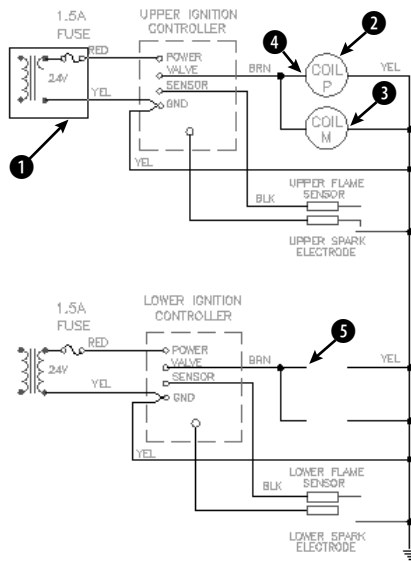

**Figure 9-5:** The electrical schematic.
3. Use ZOOM Window to zoom into the area of the drawing marked ❶ in Figure 9-5. This shows a 24-volt transformer.
6. Pick the circle at ② in Figure 9-5 (which shows the entire schematic section). Note the grips. You also want to select the text inside the circles, but it's hard to see because of the grips. Press Esc to remove the grips.
7. Choose Copy from the Modify toolbar. Now select the circle at ② in Figure 9-5 again. This time no grips obscure the text. Separately pick both lines of text inside the circle.
8. Continuing to select objects to copy, select the circle at ③ in Figure 9-5. Also select the two lines of text inside the circle. Right-click to end the **Select objects:** prompt.
9. At the **Specify base point or [Displacement] <Displacement>:** prompt, pick the endpoint at ④ in Figure 9-5. At the **Specify second point of displacement or <use first point as displacement>:** prompt, pick the endpoint at ⑤ in Figure 9-5. Press Enter to end the COPY command. This action copies the two circles with the text.